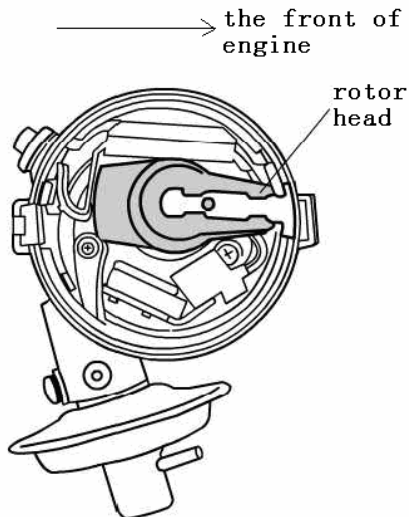

Fig. 4-5 The position of rotor head when the piston in No.1 dylinder is at TDC compression stroke
- B. Open distributor cover and observe the position of rotor head make the end with notch of contact set face forward (fig.4-5)